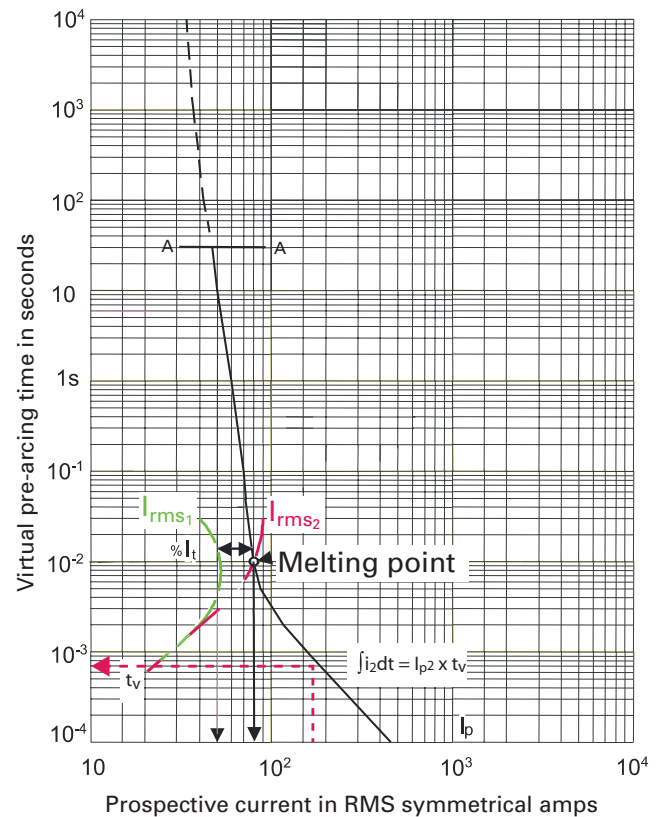

Figure C1. Time-current curves.
The time-current curve, also called the TCC curve, provides vital information for the selection and determination phase. See Figure C1.
It is at these virtual times, using  $I_p$  and  $t_v$  directly from the fuse time-current curve, that permits calculating its melting integral ( $I_p^2 \times t_v$ ) for the actual value of prospective current (see Figure C1). The following method shows two examples ( $I_1$  and  $I_2$ ) with guidelines to determine the effect on a fuse from an overload or short-circuit:
- Plot the RMS current values as coordinates  $I_{RMS}$ ,  $t_r$  onto the fuse time-current curve as shown in Figure C1
- If the plotted curve crosses the fuse's melting curve ( $I_{RMS2}$  in Figure C1), the fuse melts at the time which can be found at the crossing point in real time ( $t_r$ )
If the plotted curve does not cross the fuse's melting curve ( $I_{RMS1}$  in Figure C1), the fuse will not open.